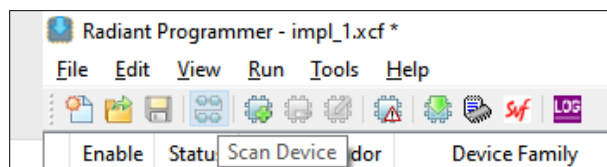

Figure 6.10. Scan Device Icon on Radiant Programmer
- If the **Device Family** shows as **Generic JTAG Device**, click **Scan Device**, as shown in Figure 6.10, to update the **Device Family** information automatically.